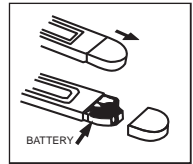

Figure 4
2. Remove battery compartment lid (Figure 4).